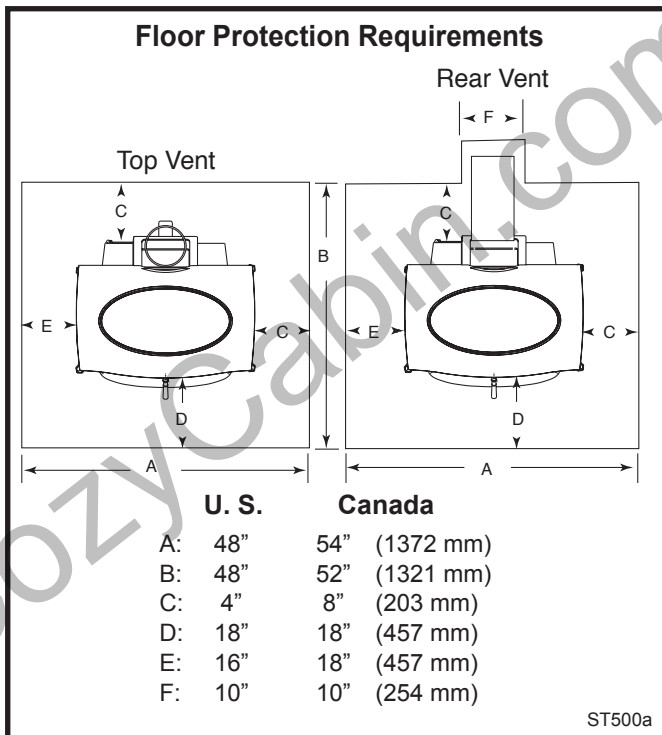

Fig. 12 These dimensions are minimum requirements only. Use greater dimensions whenever possible.
**For U.S. installations** the floor protector is required under the stove and must extend at least 18" from the front of the stove ("D", Fig. 12), at least 4" from the right side and rear ("C", Fig. 12) and 16" from the left side ("E", Fig. 12). It must also extend under the chimney connector and 2" to either side ("F", Fig. 12).
To meet these requirements, a floor protector must be at least 48" wide ("A", Fig. 12) and 48" deep ("B", Fig. 12)
To meet these requirements, a floor protector must be at least 54" (1372mm) wide ("A", Fig. 12) and 52" (1320mm) deep ("B", Fig. 12).